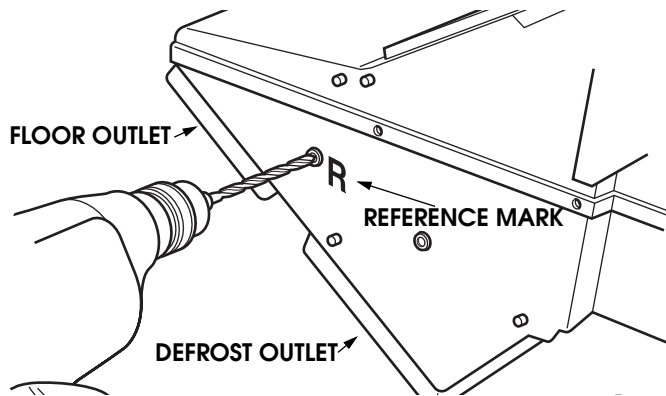

Figure 11-100: Drilling Door Travel Limiting Rivet
- Remove floor door travel limiting rivet by drilling head. Note the side of the rivet the door is resting on (Figure 11-100).
NOTE: Place a reference mark on the case to ensure that the rivet is placed in the same location during reassembly that it was removed from (Figure 11-100).